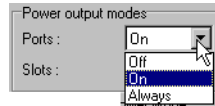

Figure 2-4. Select Power Output Modes – Ports
6. Select the **Power output modes Ports** drop-down list to set power output on the serial ports (Figure 2-4).